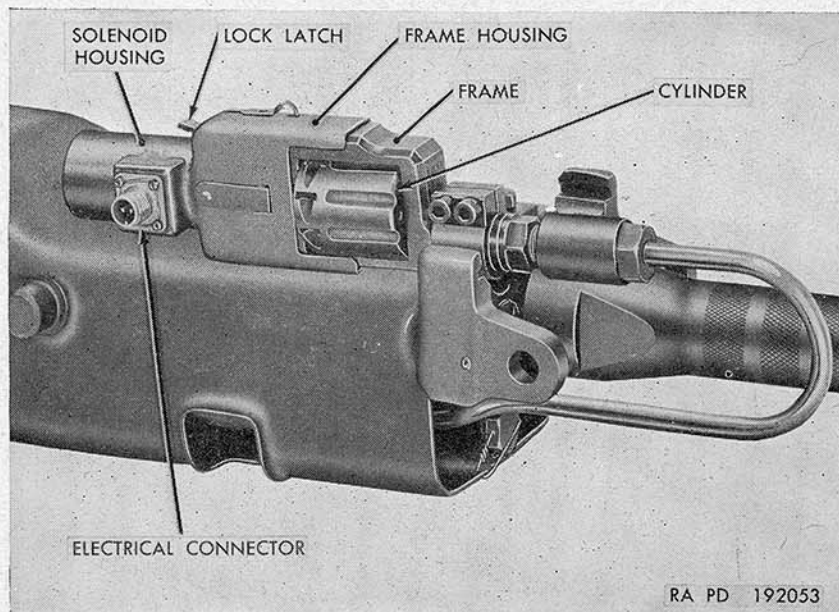
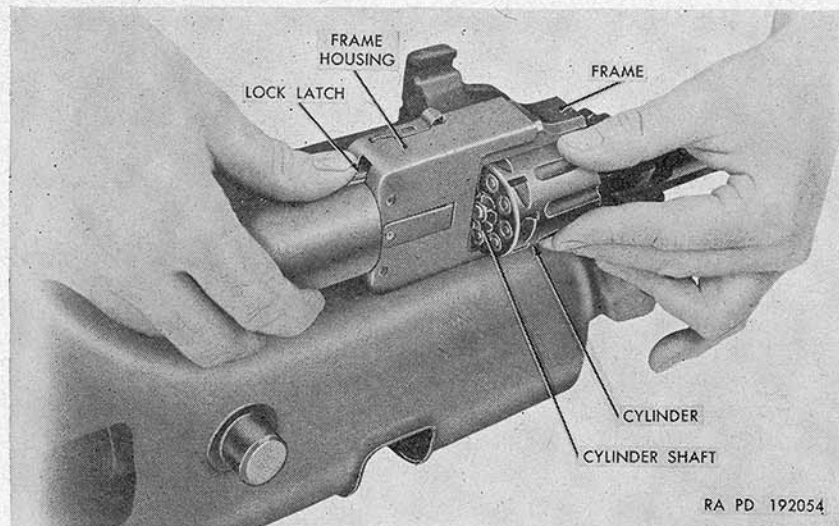
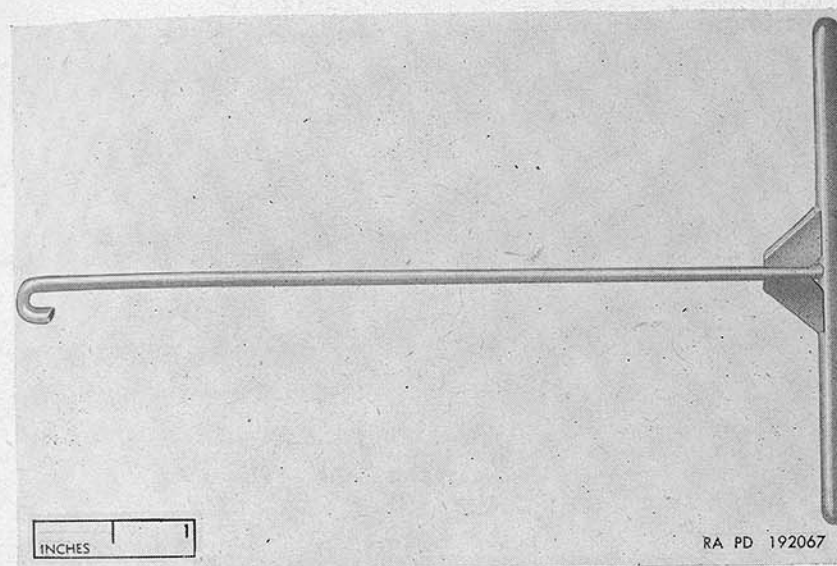

Figure 13. Percussion charger T13 installed on receiver.
Figure 14. Removal of charger cylinder from frame.
Figure 27. Rammer hook—7188569.
- (1) Depress the lock latch (fig. 13) with the thumb and grasp the solenoid housing (fig. 14) pulling it rearward to free the cylinder.
- (3) Depress the lock latch and retract the frame and solenoid housing (figs. 13 and 14). Insert the cylinder in its recess in the frame and center it so that the cylinder shaft (fig. 14) contacts the spindle extension within the frame.
- (4) Release the lock latch and allow the frame housing to move forward. Be sure the spindle extension contacts the cylinder shaft and forces it forward to lock the cylinder in place.
c. Operation of Charger. To operate the percussion charger T13, it must be connected to a 24-volt direct-current source by means of the electrical connector (fig. 13). Applying voltage to the circuit, by means of an external switch, energizes the charger solenoid and fires one cartridge in the charger cylinder (par. 48).
- (4) Cycle the operating slide (par. 87) by firing the charger once or by using the operating slide rammer hook 7188569 (fig. 27). If the rammer hook is used, it will be necessary to remove one or both operating springs (par. 62). To fire charger, connect the electrical connector on the charger (fig. 13) to 24-volt direct-current source and apply current to solenoid by pressing switch. Charging the gun once allows the operating slide feed rammer (fig. 9) to remove one round from the belt and partially chamber it in the drum.
- (5) Again cycle the operating slide. This completes chambering the first round and also feeds a second round to the first drum position.